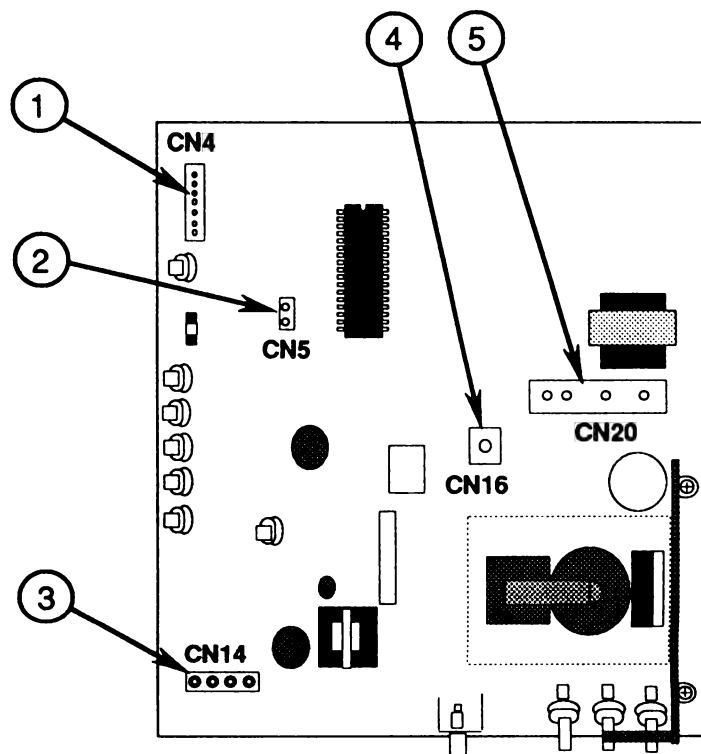

FIGURE 18
- CN4 – 7-wire connector from the control PCB at the front of the monitor (Figure 18, #1)
- CN5 – 2-wire connector from the white-only switch at the front of the monitor (Figure 18, #2)
- CN14 – 4-wire connector from the CRT board (Figure 18, #3)
- CN16 – 1-wire connector from the silver ground strap surrounding the CRT (Figure 18, #4)
- CN20 – 4-wire connector from the CRT neck (Figure 18, #5)